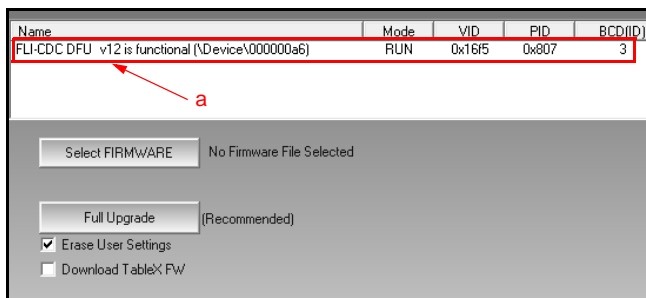

Figure 5 “Printer Detected” Indicator
- To verify communication between the GEN5 Printer and the Device Firmware Upgrade Application, look for the Printer Detected indicator (Figure 5 a) in the window.